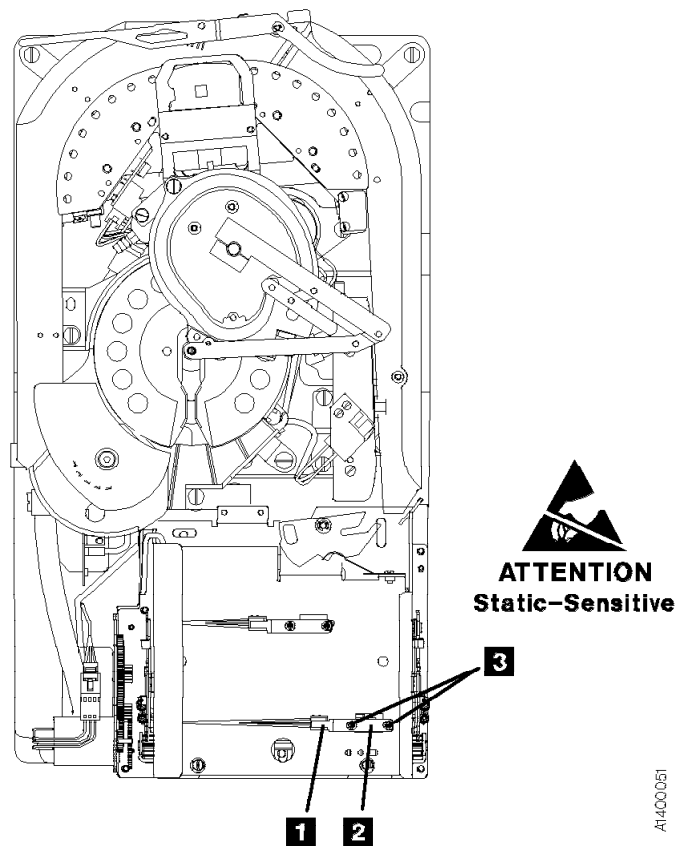

Figure 338. Door-Open Sensor
3. See Figure 338. Remove two screws **3** holding the door-open sensor **2**.